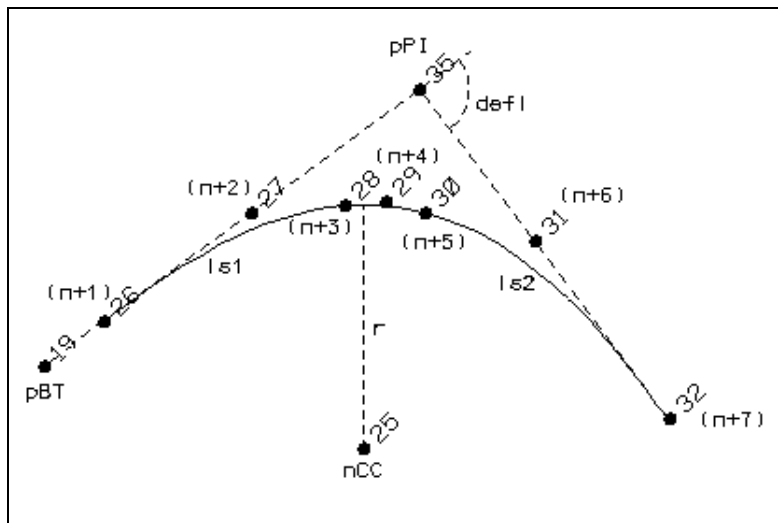

Figure 17.5: Fit Alignment Example Results
This example, as shown in Figure 17.5 below, finds the point of intersection (35) of the back and ahead tangent, beginning (36) and end of the curve (42), points of intersection between the spiral and curve (38, 39) and point of intersection of each spiral (37 and 41).